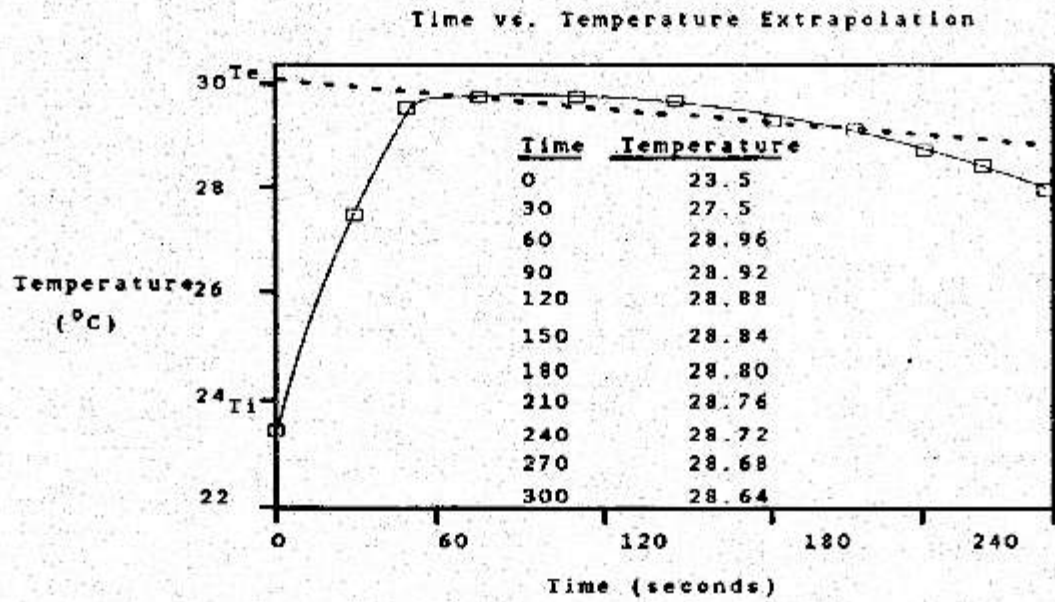

FIGURE 1
a. After plotting your data points of temperature vs. time, draw a smooth curve through these points. Your initial point at time = 0 will have the initial temperature (T_i) of the solution prior to mixing (refer to Figure 1). Draw a straight line from your "stabilized" data (data recorded over the one minute intervals) back to the Temperature axis. This is your extrapolation. The extrapolated temperature, T_e , is the temperature where this extrapolation line intersects the y-axis.